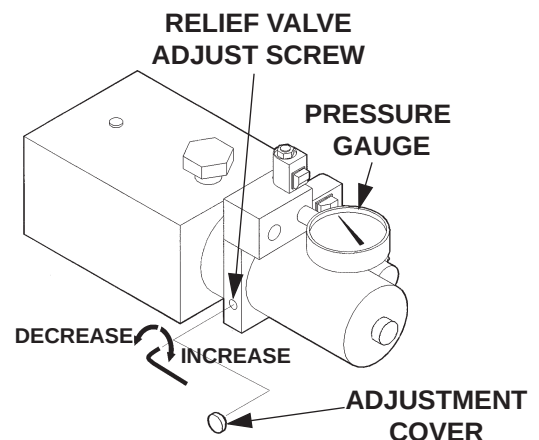

FIG. 43-2
3. With Platform on the ground, remove the pressure hose and fitting from the Pump and replace it with a 0-3000 PSI Pressure Gauge. Hold the switch in the "UP" position. Adjust the Relief Valve on the side of the Pump until the gauge shows 2200 PSI (**FIG. 43-2**). Remove gauge and reinstall pressure hose.